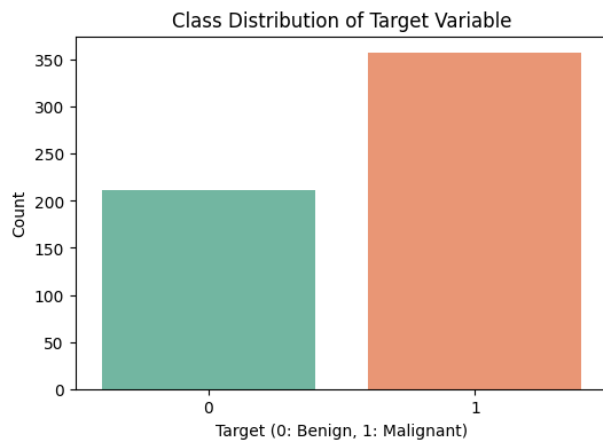

Fig.5
Finally, it was vital to check the class imbalance. For the determination of benign (0) and malignant (1) cases the target variable also referred to as Target was used. Upon examination, slight imbalance was concluded with 357 malignant cases and 212 benign cases. The count plot (fig 5) was used as an evidence for the same visualizing a higher occurrence of malignant tumors in the dataset.